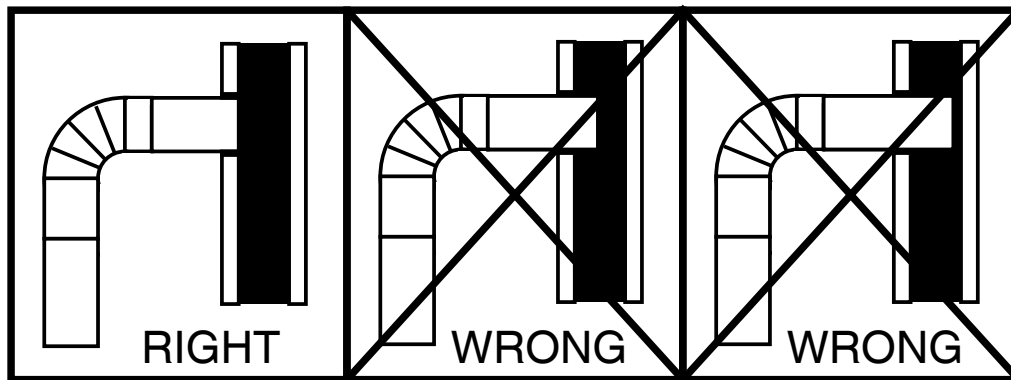

FIGURE 8
4. The pipe cannot extend into the chimney flue.(Fig. 8)
7. It is recommended that no more than two (2) 90 degree bends be used in the stove pipe installation as more than two (2) may decrease the amount of draw and possibly cause smoke spillage.
1. The connector pipe may push into the chimney too far, stopping the draft. (Fig. 8)